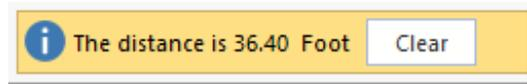

Figure 7-16
- In the **Message Bar** the program will display the measurement between these two points which is 36.40' as shown in **FIGURE 7-16**.